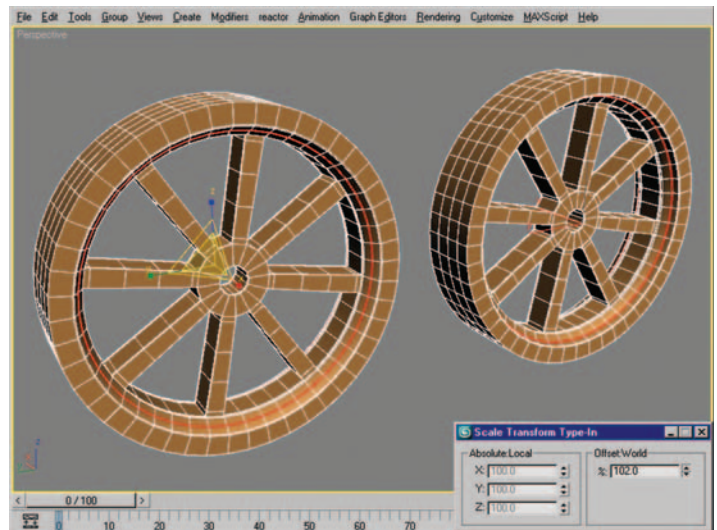

Figure 8.110 Edge loops selected (left) and scaled to 102% (right).
21. If they aren't still selected, select the four edge loops you just created (Figure 8.110, left). Use the Scale Transform Type-In and scale the loops to 102% for the result seen in Figure 8.110 (right).